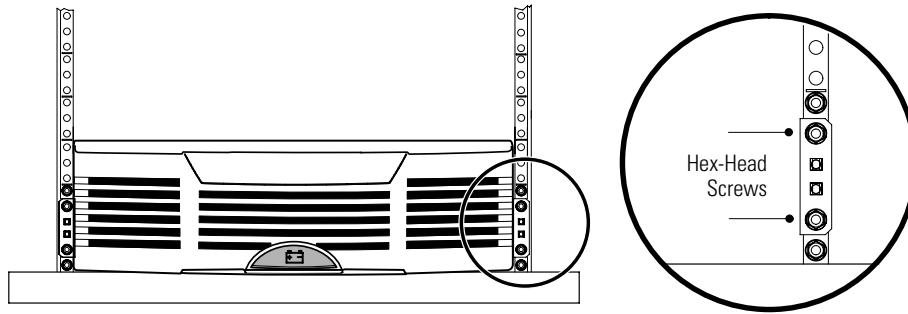

Figure 15. Securing the EBM Mounting Brackets
11. Secure the front of the EBM to the rack using two hex-head screws in each mounting bracket as shown in Figure 15.